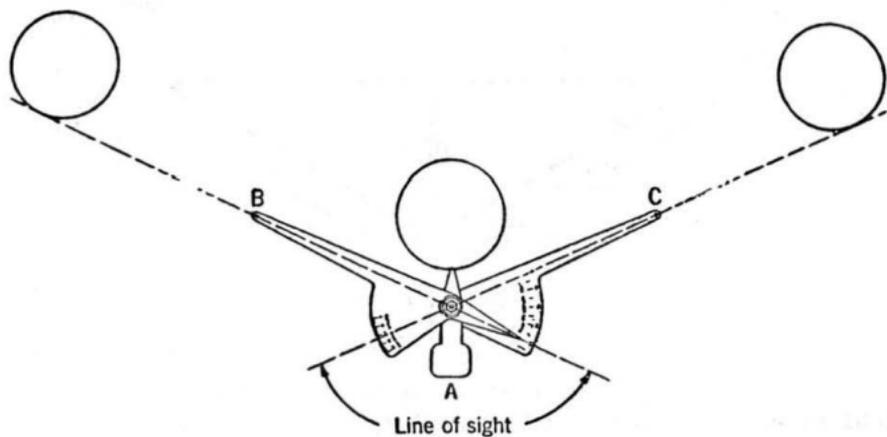

Fig. 7
3.03 To determine the pull at a corner pole by use of the B Pull Finder, screw the short leg A into the corner pole, as illustrated in Fig. 7. Adjust leg C so that the line of sight, when sighting over the back sight and the front sight on leg C, is tangent to the surface of the pole adjacent to the corner, as illustrated. In a similar manner, line up leg B, sighting on the other pole adjacent to the corner. Check leg C to make certain it has not been moved. The pointer on leg B now indicates, on the scale on leg C, the pull in feet at the corner.